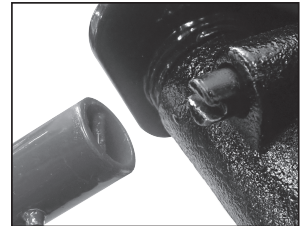
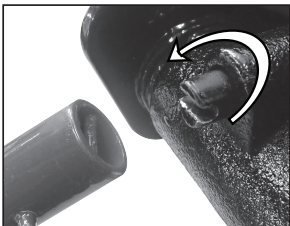

fig 3.
fig 4.
3. To Open release valve. Align the lower handle pin with the slot in the release valve (fig.3), then rotate the handle assembly anti-clockwise no more than 1-1/2 turns (see Fig. 4).
1. Check oil level - Open release valve with the handle assembly (fig.4) not more than two turns and press down on head cap to ensure lifting arm is fully down.
2. Close the release valve by rotating the handle assembly clockwise until you feel firm resistance (see Fig. 4).
2. Align the lower handle pin with the slot in the release valve. Slowly turn the handle assembly counter-clockwise (fig.4) until the Jack just begins to lower.